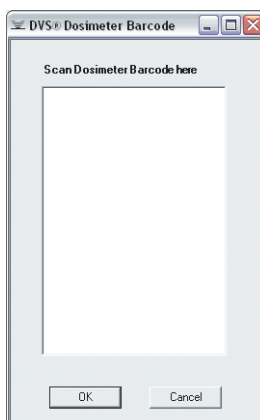

Figure 34 — Dosimeter Barcode
1. Click **Add Dosimeter**. A dialog box for entering the dosimeter's bar coded calibration values appears (Figure 34).